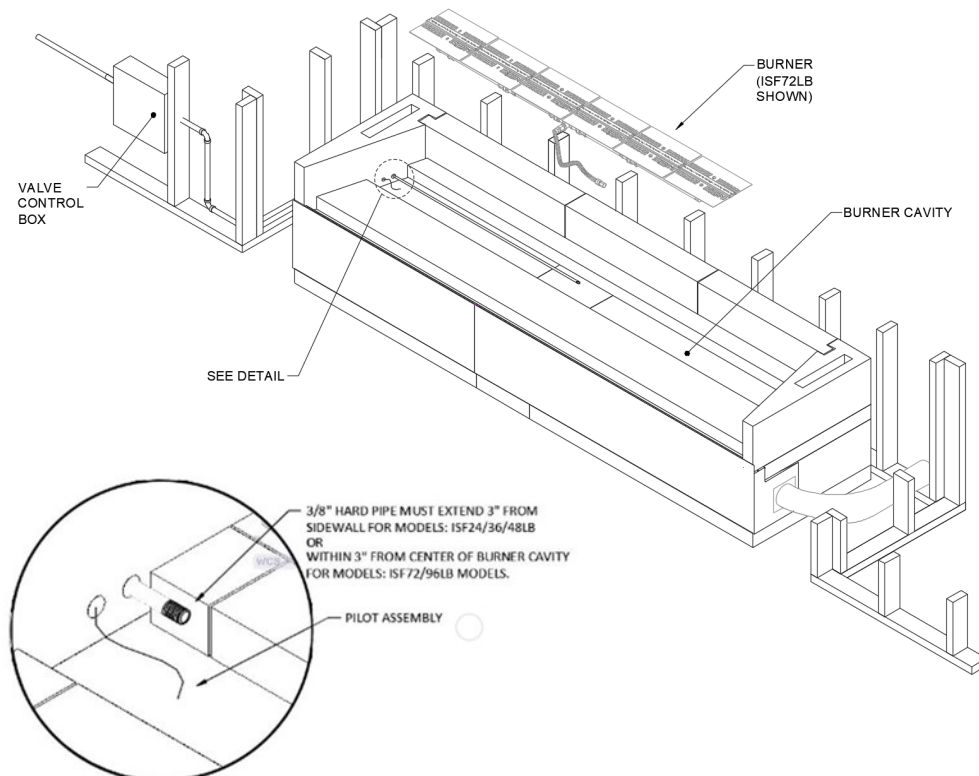

FIGURE 49
- 4) The 48” and 72” Maximus Linear fireplaces (82L48 & 82L72) will require the ISF36/60LB (N/P) (respectively): Gas supply piping for these models shall terminate not less than 3” from sidewall. (Figure 49)
- 5) The 96” and 120” Maximus Linear fireplaces (82L96 & 82L120) will require the ISF72/96LB (N/P) (respectively): Gas supply stub piping for these models shall terminate within 3” from center of the cavity. (Figure 49)